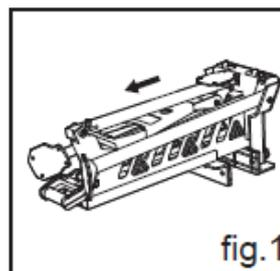

fig.1
1. Put the portable stand vise upside down on the ground, loosen the rear leg lock lever (13) and slide the rear leg (12) from its stored position. Pivot the leg fully and slide down to engage it in the final locking position. Lock the rear leg lock lever. (See figs 1–3)